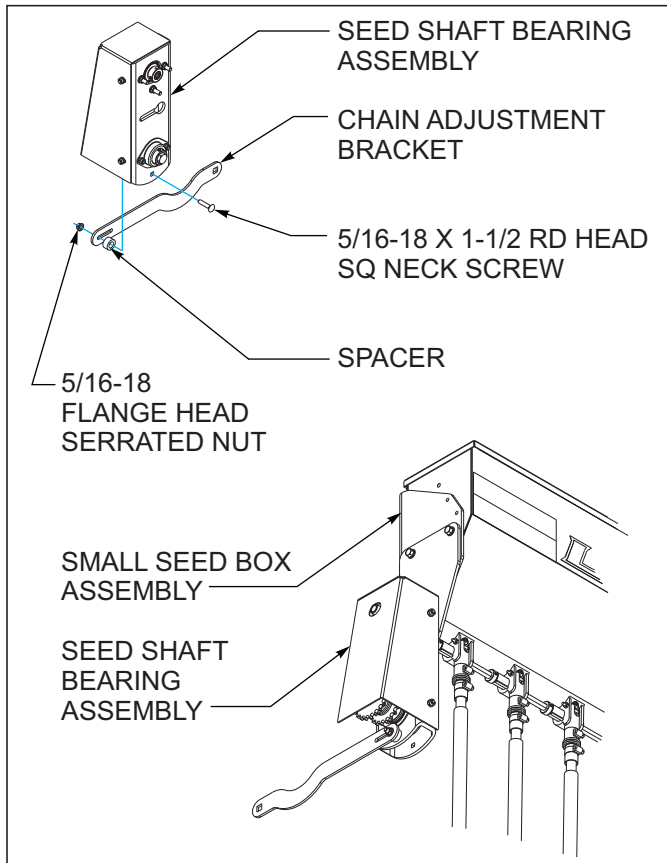

Figure 3-6: Attaching Chain Adjustment Bracket to Small Seed Bearing Assembly
10. Attach the slotted rear hole of the chain adjustment bracket to the outer hole of the small seed bearing assembly with a 5/16-18 x 1-1/2 round head square neck screw, 1" OD spacer and hex flange nut **See Figure 3-6.**